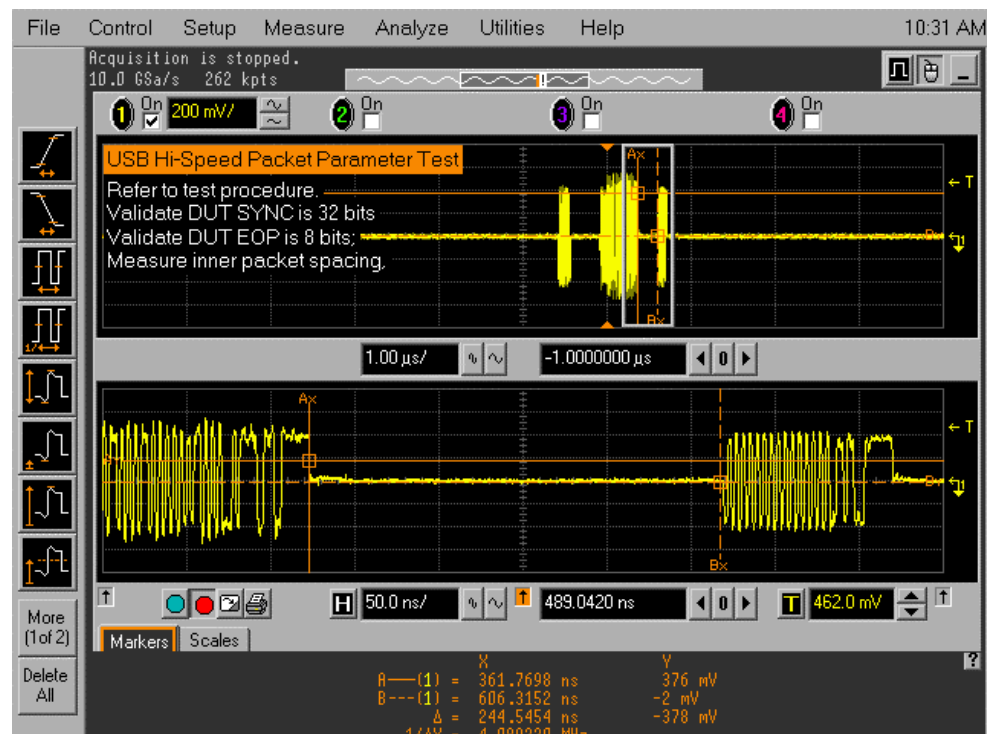

Figure 71. EL_22 Host Inter-packet gap (host response to device) waveform
7. The host enumerates the HSEHET board and requests **GetDescriptor()**, then waits for 15 seconds. The host then initiates an **IN** token, the device responds with a **DATA**, then the host sends an **ACK**. You should see the transmitted test packet on the oscilloscope as shown in Figure 71.